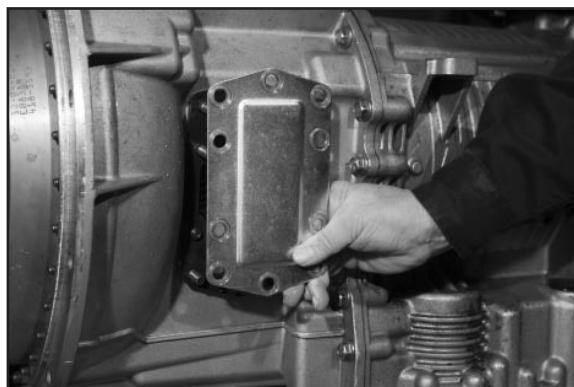

Fig. 6
- Remove the P.T.O. aperture plate with a 15mm socket (**Fig. 6**).